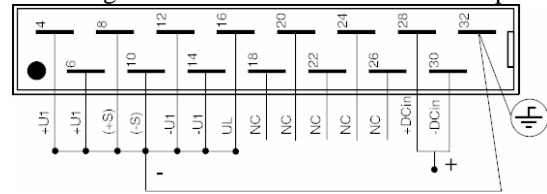
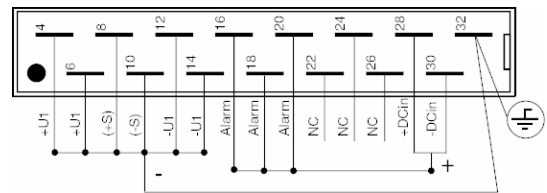

Figure 11 Input to output and input to case isolation voltage test.
Figure 12 Input to output and input to case with relay isolation voltage test.
4. Connect your isolation tester between input and case. See *Figure 11*. Raise the voltage of the isolation tester from 0 to 2000Vd.c. (With option E1 or C, 110, D input codes 0 to 4000 Vd.c.). Check that the leakage current does not exceed 5 μ A. The voltage should not be applied for more than a few seconds or the Y-capacitors might be damaged. See *figure 12* to include the alarm relay option. The relay outputs are insulated from output/input/case.
2. Connect the output terminals of the converter to case. *See Figure 11*
4. Connect your isolation tester between input and case. See *Figure 12*. Raise the voltage of the isolation tester from 0 to 2500Va.c. The voltage should not be applied for more than one (1) minute or the Y-capacitors might be damaged. See *figure 12* to include the alarm relay option. The relay outputs are insulated from output/input/case.